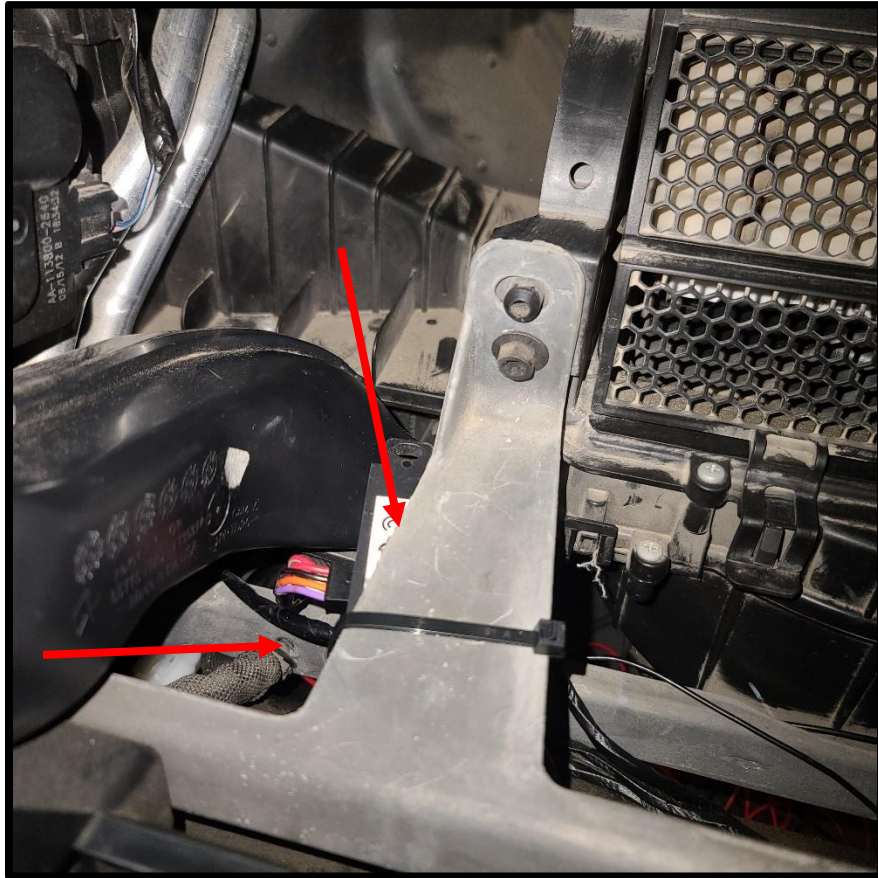
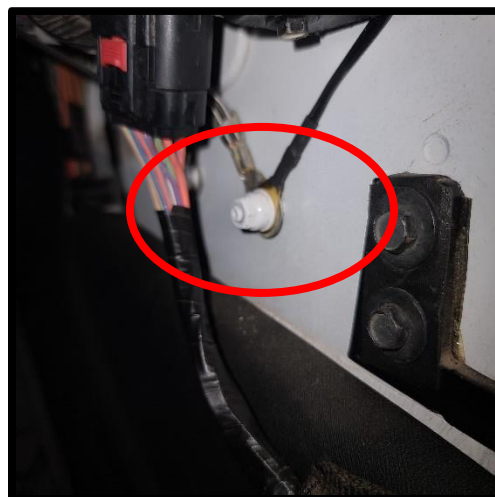

Figure 20
Figure 21
4-G) Obtain the ARB pressure control module / wiring harness, plug the harness into the module, and attach the module with at least one (1) zip tie to the bracket under the glove box as shown in **Figure 20** (glove box is removed) with the harness plug to the left. Run the ground for the module (**black** wire with a brass ring connector) over to the ground stud in the footwell. Attach to the stud circled in **Figure 21**.